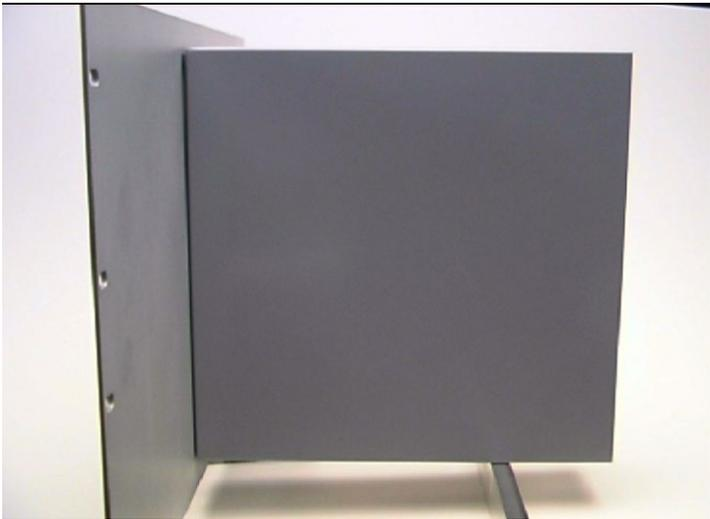

Figure 2-7. Panel Mount Support
- 3. Ensure a panel thickness of at least 3 mm (0.12 in) to prevent distortion. If you use a thinner panel, support the rear of the case (refer to *Figure 2-7*).